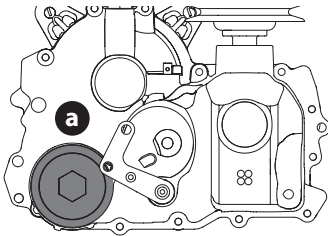
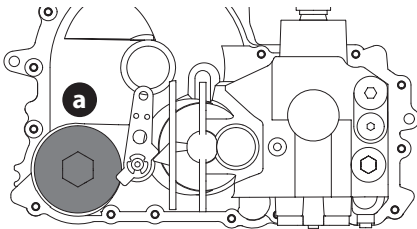

Figure 43
Figure 44
- Place a suitable container under the oil filter cover (a) on the transmission. Remove the oil filter cover from the transmission to drain the oil (Figure 43 for 700 series, Figure 44 for 900 series). Remove and discard the O-ring.
- Replace new filter and fit new O-ring onto filter cover (a) (Figure 43 for 700 series, Figure 44 for 900 series).